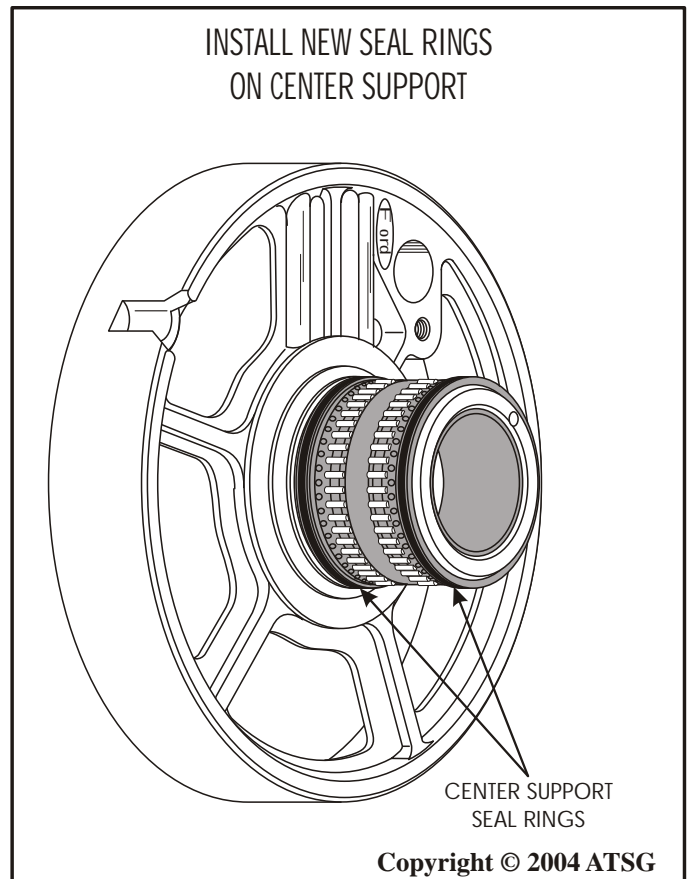

Figure 95
5. If you cannot visually see any crack, install new sealing rings onto the center support, as shown in Figure 95.